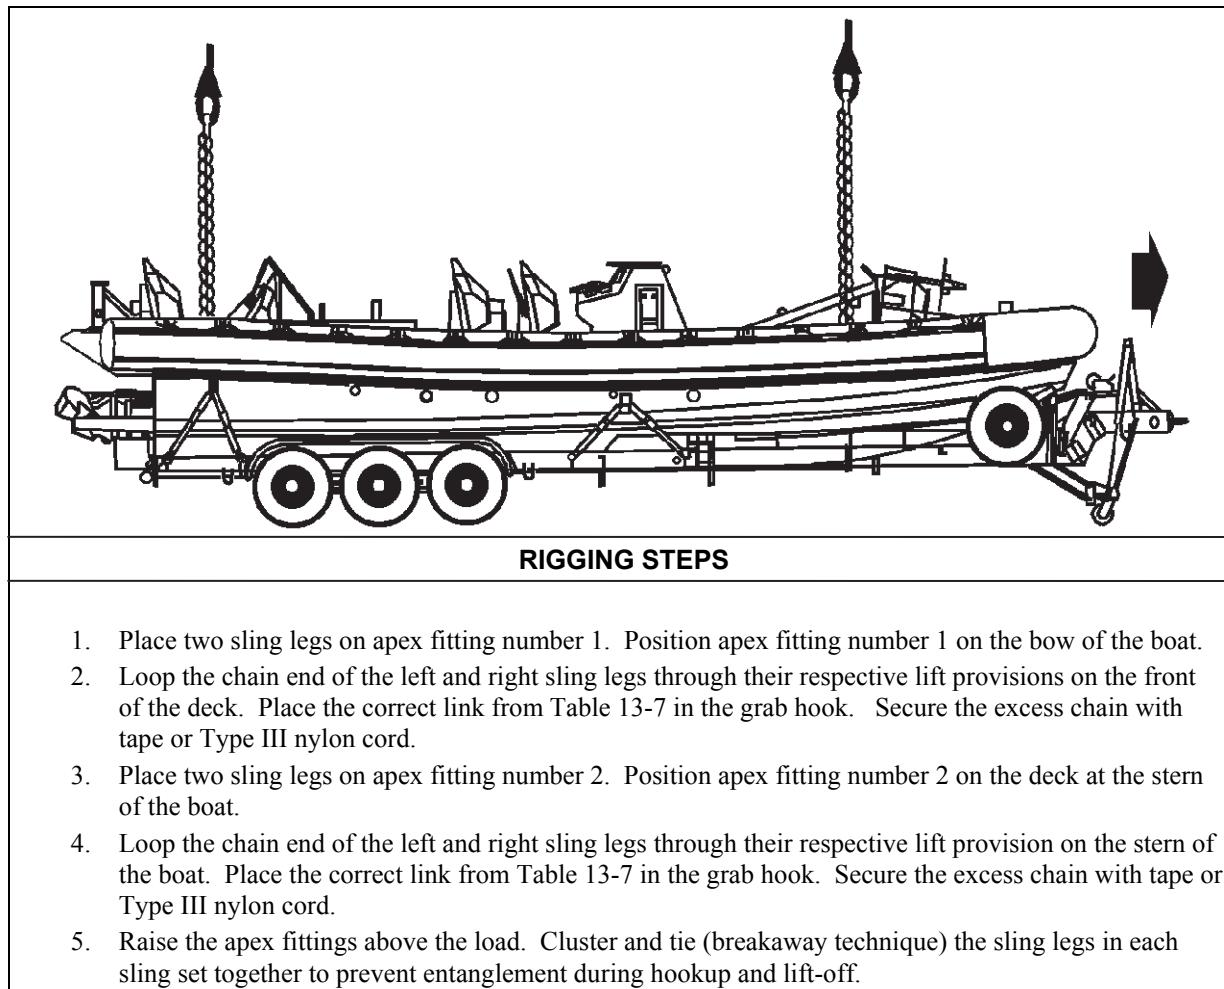

Figure 13-7. Naval Special Warfare Rigid Boat with or without Trailer
- **Rigging.** Rig the load according to the steps in Figure 13-7.